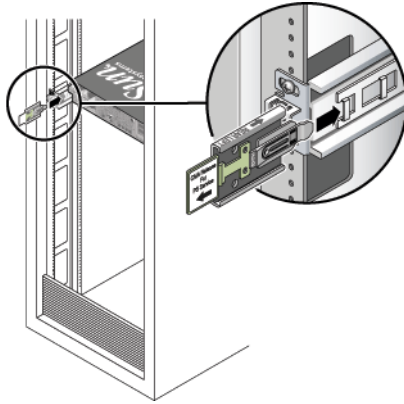

FIGURE 2-4 Inserting the CMA Rail Extension Into the Rear of the Left slide rail
3. Locate the CMA rail extension and insert it into the left slide rail until the extension locks into place with an audible click (FIGURE 2-4).